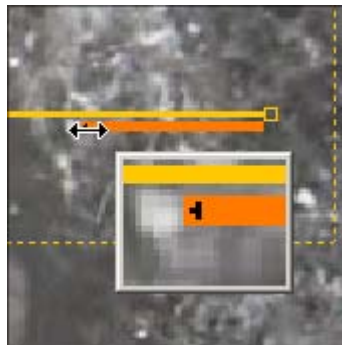
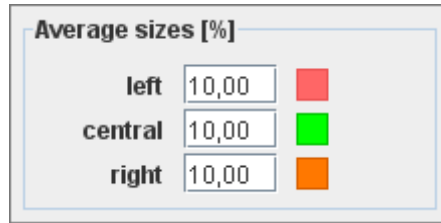

Figure 47: right gauge resize handle.
Figure 48: gauges length controls.
5. Drag the gauge's handles or use the gauges length controls to adjust the size (in % from the camera's field of view width) (Figure 47, Figure 48).